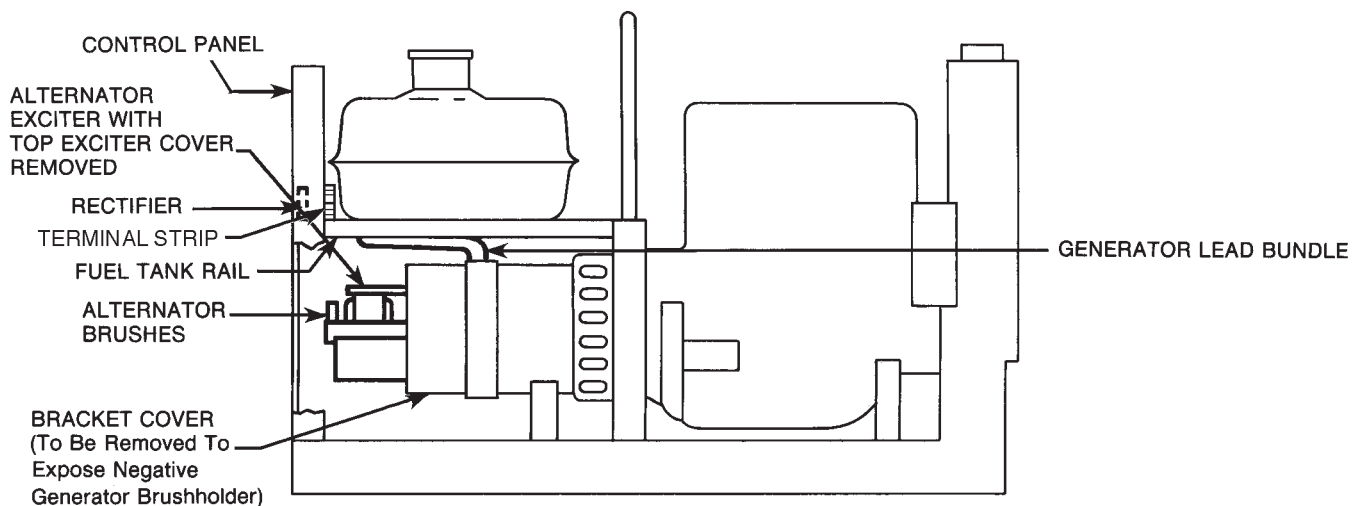

FIGURE 11A
1. Remove roof assembly, back panel, top exciter cover and bracket cover. See Figure 11A.
3. Remove existing brown field lead from the black lead on the positive rectifier terminal and connect the brown field lead to CV Adapter lead 509 using the existing push-on terminal. Tape up connection and unused ring terminal. Rectifier located on back of control panel. See Figure 11A.
6. Connect CV Adapter lead 602 to #602 on the terminal strip. Also connect the CV Adapter lead 600 to #600 on terminal strip. If there are leads already present at 600 and 602 on the terminal strip, the leads remain there. See Figure 11A for terminal strip location.
8. The negative generator brushholder, exposed when bracket cover (see Figure 11A) is removed, is at the 11 o'clock position when the commutator is viewed from the control panel end of welder. Remove the 5/16 bolt which connects the two existing cables to the negative brushholder. Obtain the thermostat assembly marked "250" and reconnect the two cables to the negative brushholder with *one end of the thermostat assembly bolts between the cable lugs and the brushholder.*